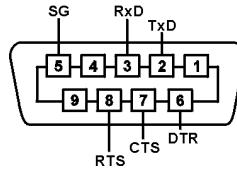

Figure 5: RS232 Pin Assignment
1. Check the RS232 cable to ensure that the pin assignment is correct (Figure 5). Use a straight-through cable.